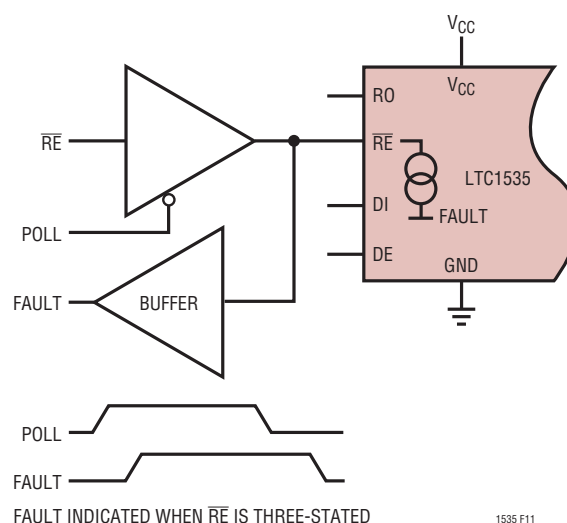

Figure 11. Detecting Fault Conditions
**$\overline{\text{RE}}$  (Pin 27):** Receive Data Output Enable TTL Input. A low level enables the receiver. This pin also provides a fault output signal. (See Figure 11.)
The  $\overline{RE}$  pin has a weak current drive output mode for indicating fault conditions. This fault state can be polled using a bidirectional microcontroller I/O line or by using the circuit in Figure 11, where the control to  $\overline{RE}$  is three-stated and the fault condition read back from the  $\overline{RE}$  pin. The weak drive has 100 $\mu$ A pull-up current to indicate a fault and 50 $\mu$ A pull-down current for no fault. This allows the  $\overline{RE}$  pin to be polled without disabling  $\overline{RE}$  on nonfault conditions.